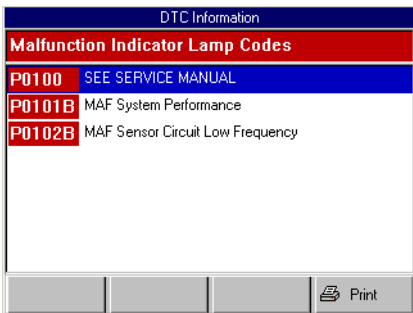

Figure 3.11: GM / Saturn DTC Information Screen
- If the selected ECM stores only current codes, the DTC Information screen appears (see Figure 3.11). Go to step 5 on page 31.